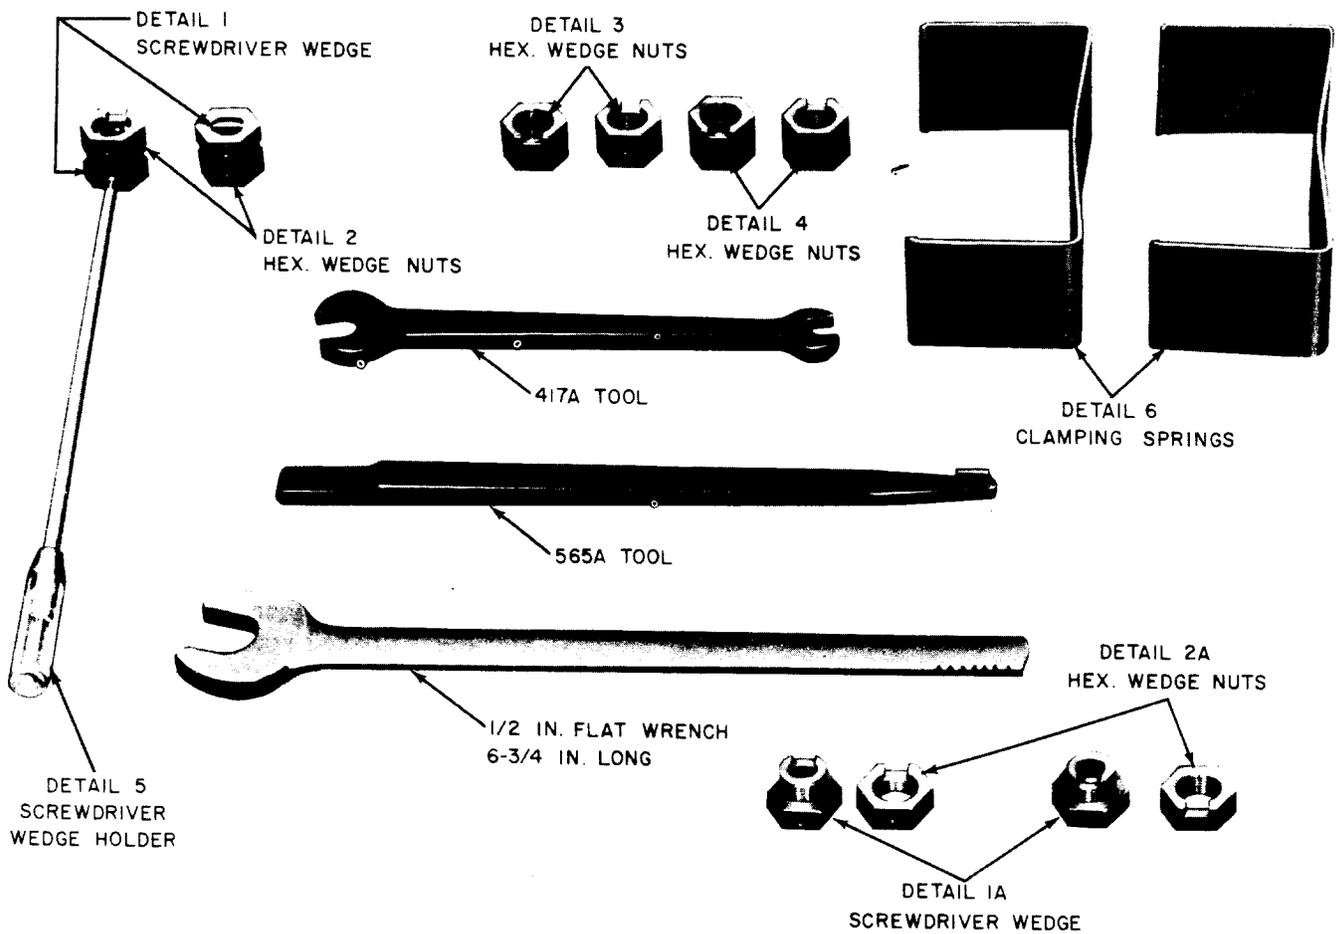

Fig. 19—KS-20558 L1 Tool Kit (KS-20557 L1 Carrying Case Not Shown)
**3.52** Figure 19 illustrates the tools comprising the KS-20558 L1 tool kit which is used when replacing defective halves of 287- or 288-type relays.
*Note:* On details 2, 3, or 4 there is a marker on the side opposite the slot. These markers should be aligned with the tapped hole in the screwdriver wedge (detail 1) into which the screwdriver wedge holder (detail 5) fits. See Fig. 19.
**3.61** Insert the screwdriver wedge holder (detail 5) into the tapped hole of the screwdriver wedge (detail 1), as shown in Fig. 19.